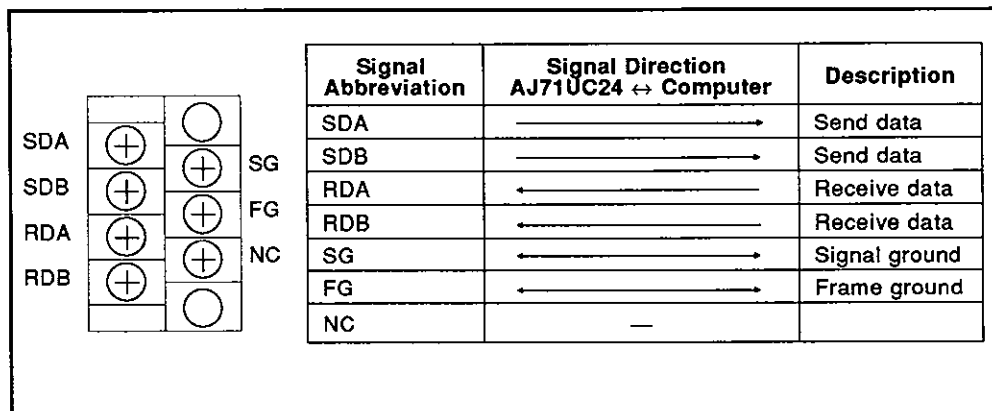

Fig. 12.1 RS-422/485 Interface Specifications
- (1) Fig. 12.1 gives the specifications of the RS-422/485 interface used for connection between a computer and the AJ71UC24 and between the AJ71UC24 modules.